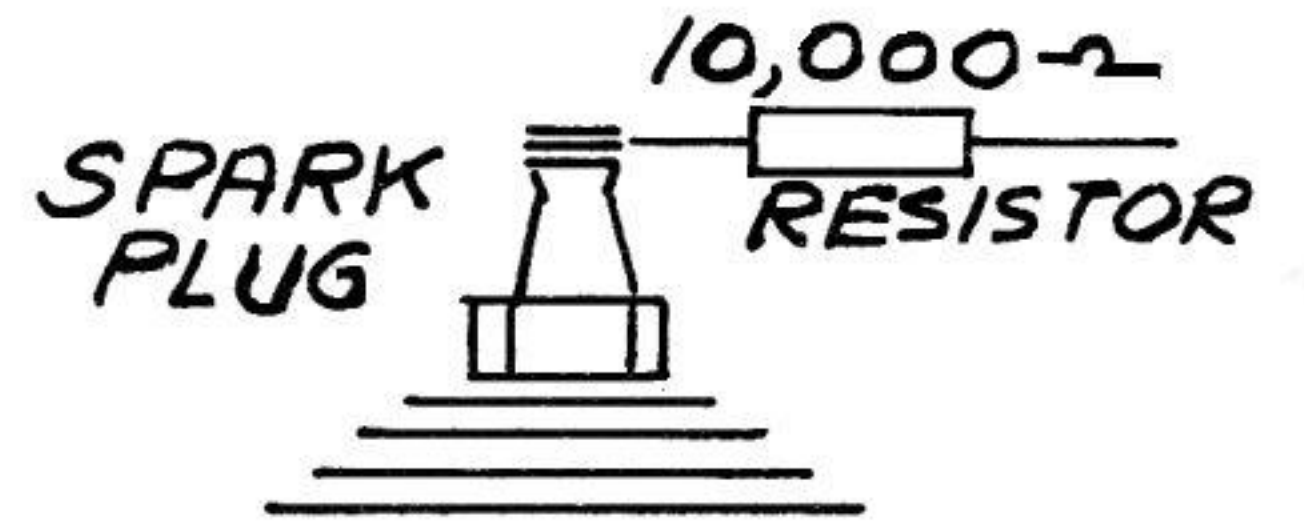

FIG 10
- 7.1 The high sensitivity of this receiver makes it subject to ignition interference. Even auto sets which are shielded require the use of one ignition suppressor in the main distributor lead. Packed with this receiver is a 10,000 ohm carbon resistor. This should be soldered into the high tension lead of the spark plug adjacent to spark plug. (Figure 10.) This should completely eliminate ignition interference. If it does not, it may be necessary to rearrange the batteries and ignition coil. See Paragraph 7.4.